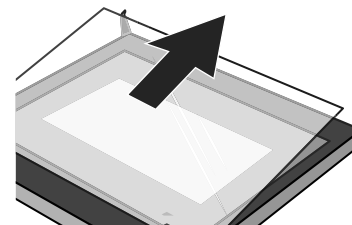

Figure 5
5. Push the glass into the position indicated by the arrow in Figure 5. Gently pull the glass out of the socket. (Figure 5)